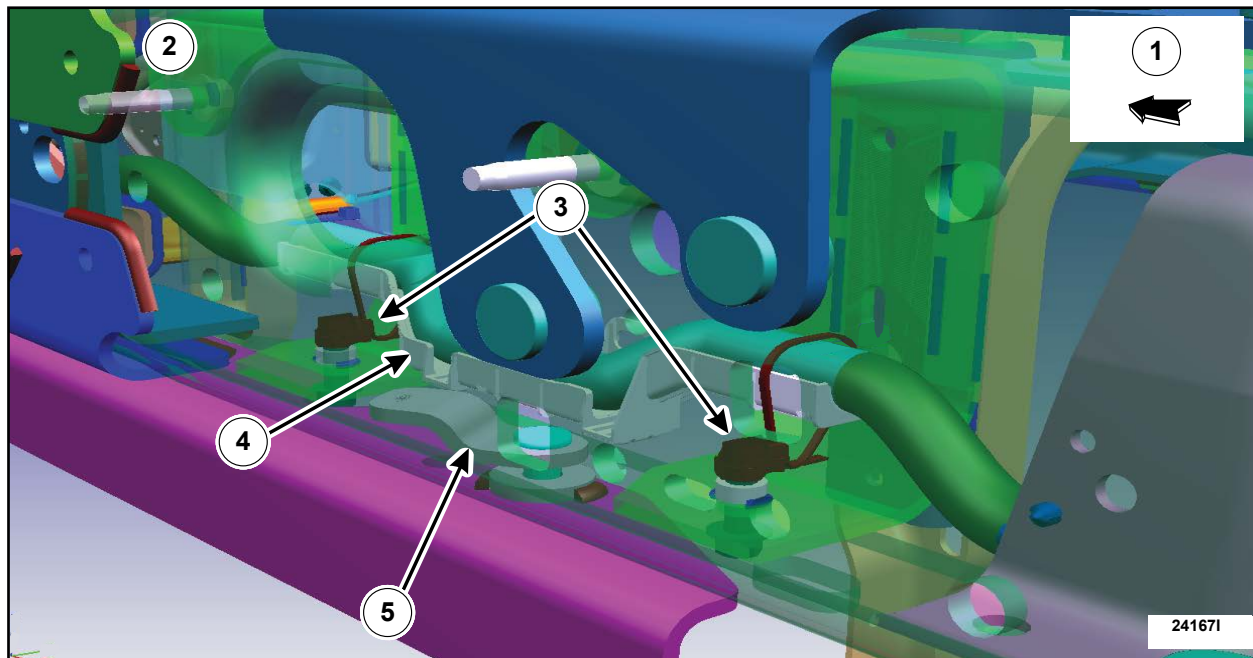

FIGURE 23
- a. Position the supplied stud clips onto the studs with the zip ties side facing inboard as shown in Figure 23.
- (1) Front of Vehicle.
- (2) Left hand side frame rail transparent view.
- (3) Stud clip locations and inboard direction.
- (4) Wire harness shield.
- (5) Lower bracket rear flag stud.